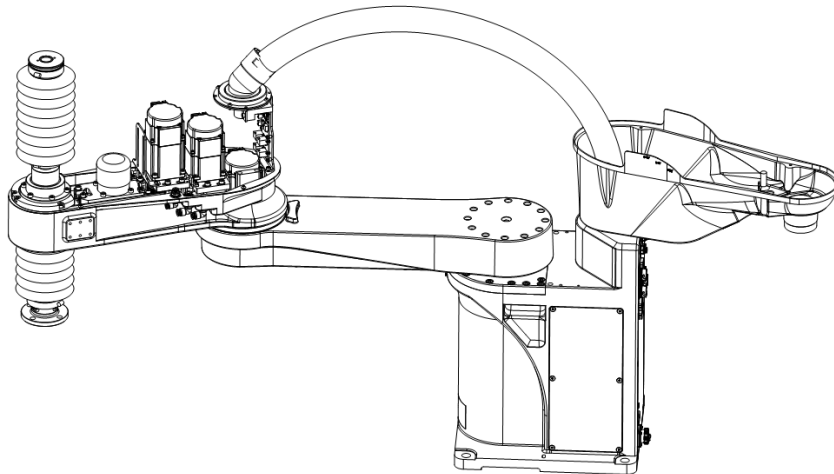

Figure 4-8 Lift the cover
Step 3 Lift the robot cover, as shown in Figure 4-8